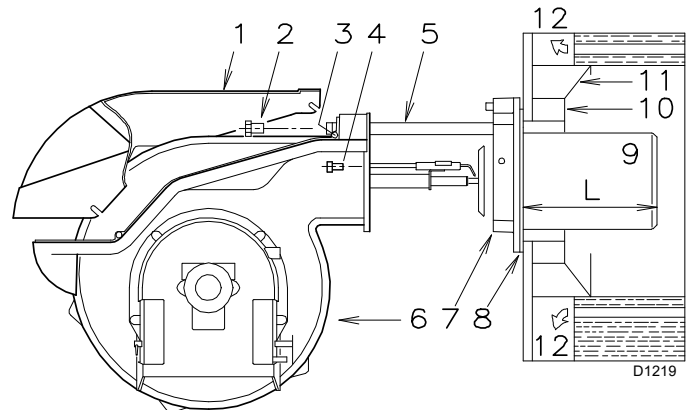

Fig. 11
For boilers having a water-cooled front the refractory fettling 10)-11)(Fig. 11) is not required unless it is expressly requested by the boiler manufacturer.
Once this operation has been carried out (if it was required), secure flange 7)(Fig. 11) to the boiler plate interposing the supplied gasket 8). Use the 4 screws provided after having protected the thread with antiscrudding products.
- Retract the burner on its slide bars as shown in Fig. 11 on page 15.